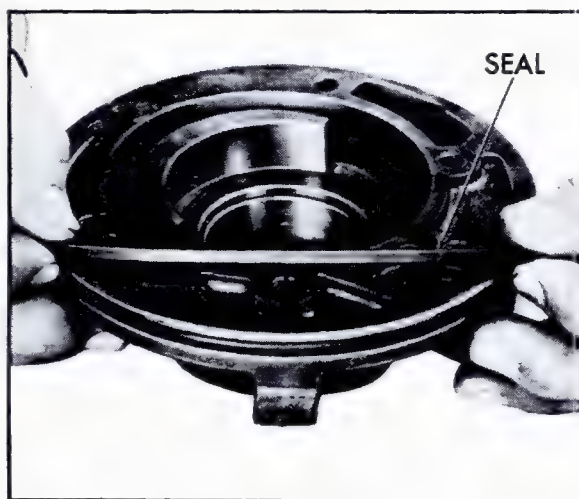

Fig. 7-211 Installing Pump to Case Seal
a. If necessary, install a new front seal, using Pump Oil Seal Installer, J-21359, to drive seal in place. Use a non-hardening sealer on outside of seal before installing into pump, Fig. 7-211.
b. Install new pump to case square-cut O-ring seal, Fig. 7-211.